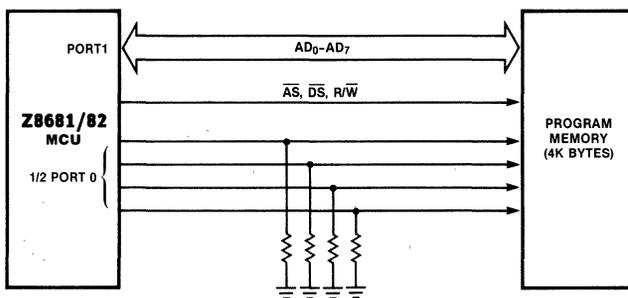

Figure 10. Port 0 Address Lines Tied to Logic 0
Such an initialization routine must reside within the first 256 bytes of executable code and must be physically mapped into memory by forcing the Port 0 address lines to a known state (Figure 10). The proper port initialization sequence is:
*Example.* In Figure 10, the initialization routine is mapped to the first 256 bytes of program memory. Pull-down resistors maintain the address lines at a logic 0 level when these lines are floating. The leakage current caused by fanout must be taken into consideration when selecting the value of the pull-down resistors. The resistor value must be large enough to allow the Port 0 output driver to pull the line to a logic 1. Generally, pull-down resistors are incompatible with TTL loads. If Port 0 drives into TTL input loads ( $I_{LOW} = 1.6 \text{ mA}$ ) the external resistors should be tied to  $V_{CC}$  and the initialization routine put in address space  $\text{FF00}_H\text{--FFFF}_H$ .